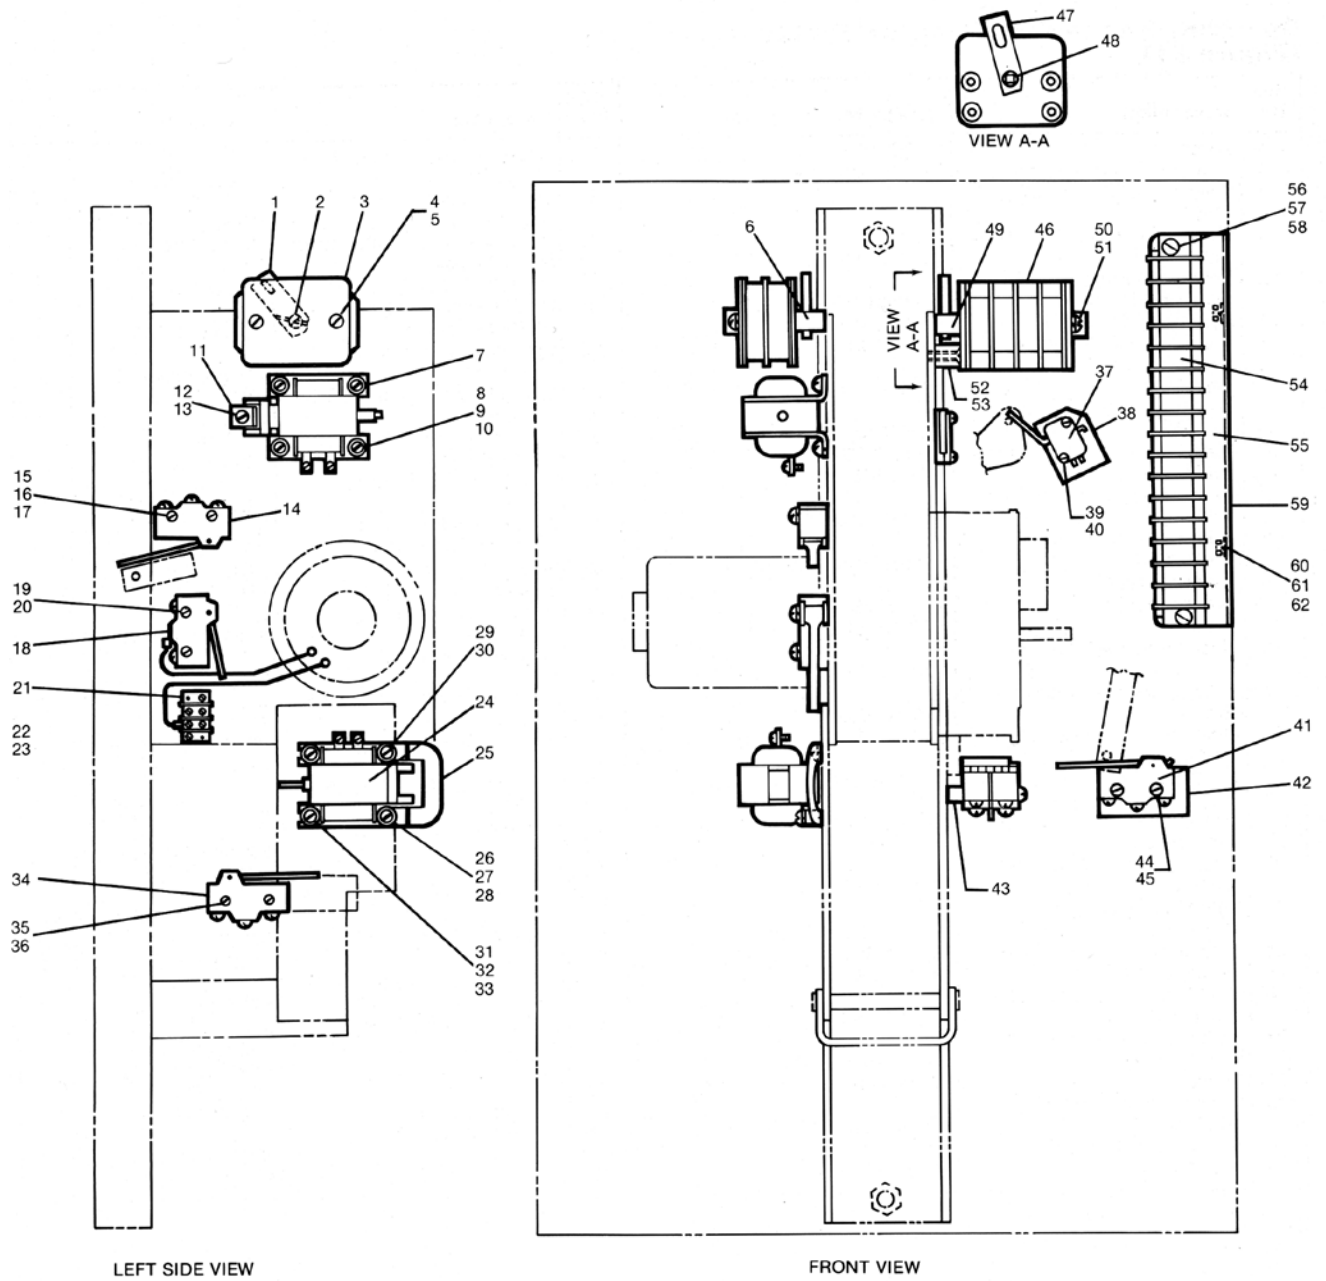

Figure 31. Operating mechanism electrical parts group
**Operating mechanism electrical parts group (Figure 31)**